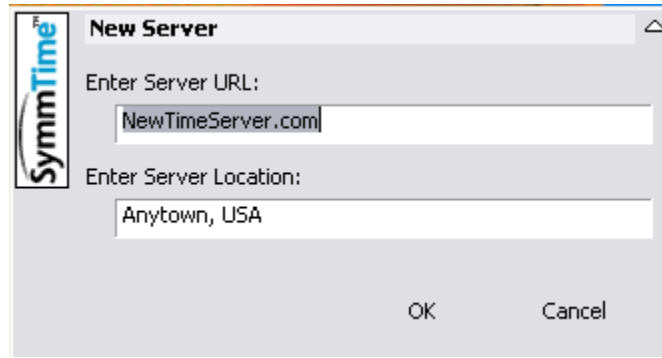

Figure 4-2. The New Server Window in SymmTime
4. Click **Add Server**. The New Server window appears, as shown in Figure 4-2.